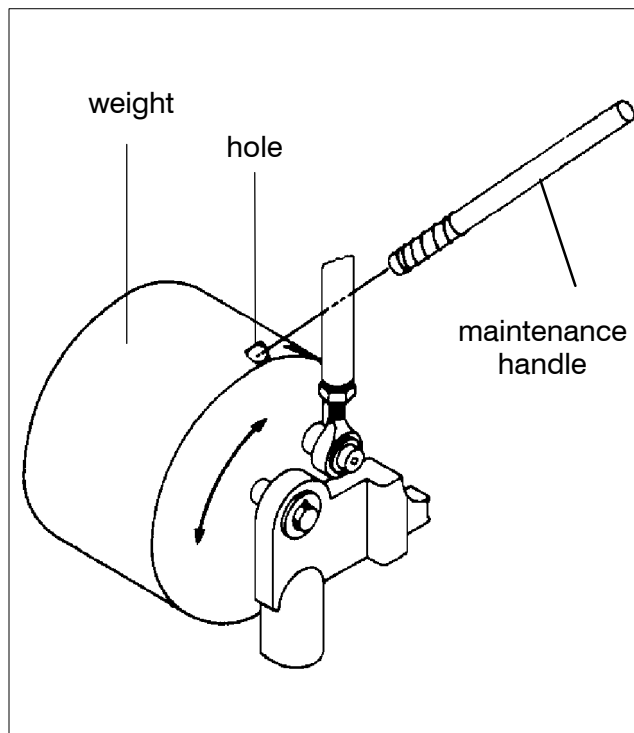

Figure 1-13. Removable maintenance handle on 4000 amp. F-design transfer switch.
*4000 amp. F–design* See Figure 1-13. Insert the manual handle into the hole in the weight.